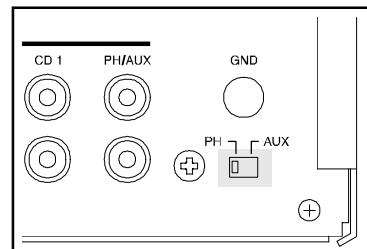

Figure 4
- C. Insert the bare section of the cable end or connector into the access hole, and tighten the terminal nut clockwise until the cable is firmly clamped into the terminal so the wires cannot slip out. Refer to figures 4, 5 & 6.
When using a phono player with a moving magnet cartridge connected to the PH/AUX inputs, set the PH-AUX switch to the PH position. When using an auxiliary program source component connected to the PH/AUX inputs, set the PH-AUX switch to the AUX position. Refer to figure 4.